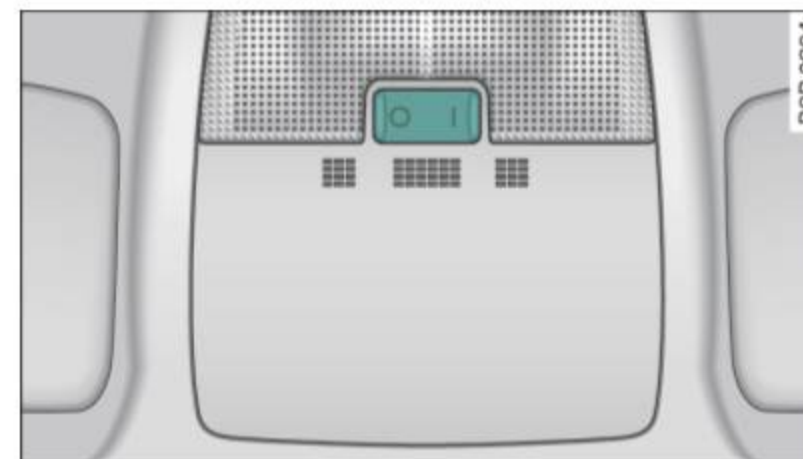

Fig. 76 Control panel above windshield: interior light switches
Light switch ⇒ fig. 76 has the following functions:
Light switch (A) ⇒ fig. 76 has the following functions: